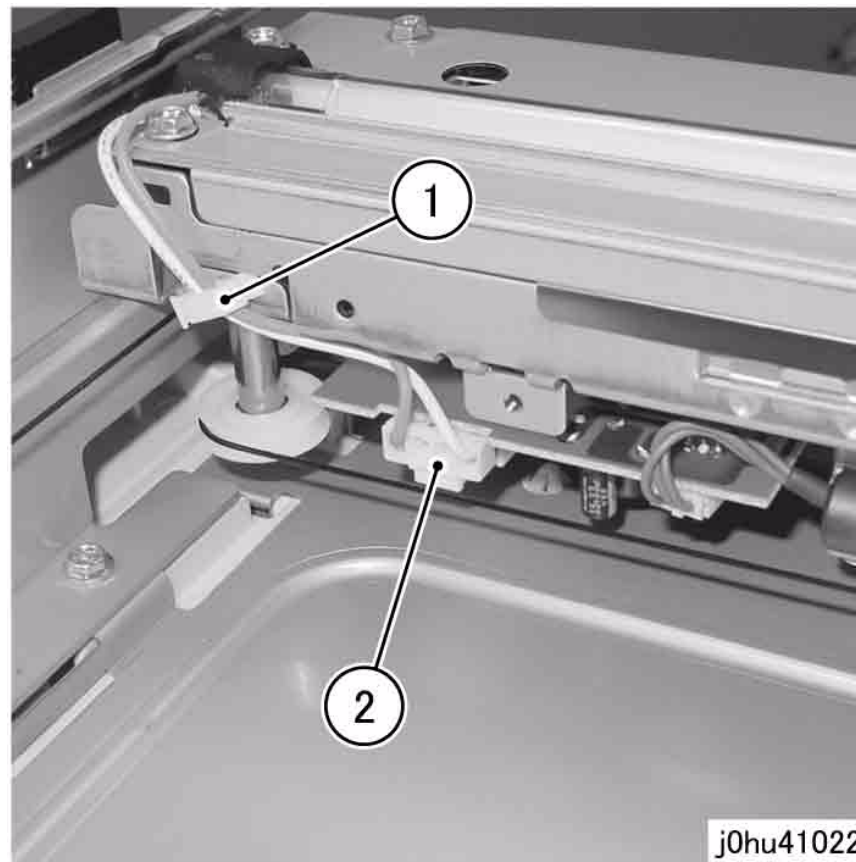

Figure 2 Disconnect Inverter PWB Connector
4. Disconnect the connector (Figure 2).